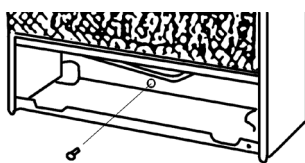
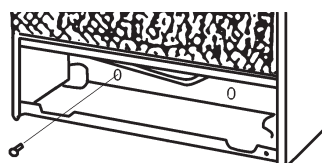

Figure 11C
Figure 11D
8. Tighten the screw until heater is firmly secured to wall. Do not over-tighten spacer onto the wall. (For 1096513 see Figure 11C), (For 3096513 see Figure 11D)